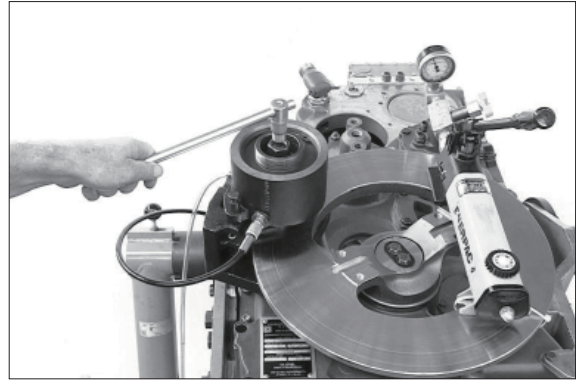

Figure 299
**Adjust the nominal clearance = 2.0 mm** (figure 299~301)
- (5) Make the pressure connection and apply the required release pressure = 150 bar to the brake (cup spring set preloaded). Fasten the adjusting screw in clockwise direction until both brake lining carriers contact the brake disc (turning of the adjusting screw is then not possible or admissible any more without a higher application of force).